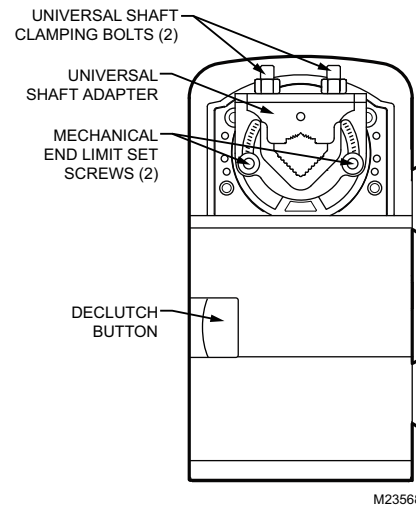

Fig. 1. Series 60 Floating Actuator.
The two mechanical end-limit set screws control the amount of rotation from 12° to 95°. These set screws must be securely fastened in place. To ensure tight closing of the damper, the shaft adapter has a total rotation stroke of 95° (see Fig. 1).
2. The Declutch button, when pressed, allows you to rotate the universal shaft adapter (see Fig. 1).
It is advisable to leave the dampers in an open position after installation to avoid the possibility of over-pressurizing the duct work on fan startup. Use the Declutch button (see Fig. 1 on page 3) to open the box damper on controllers that are powered down, to prevent over-pressurization in the duct work on fan startup. To Declutch, press and hold the button to disengage the motor. Turn the damper shaft until the damper is open and release the button. When power is restored to the controller, the controller synchronizes the damper actuator, so that the damper is in the correct position upon startup.